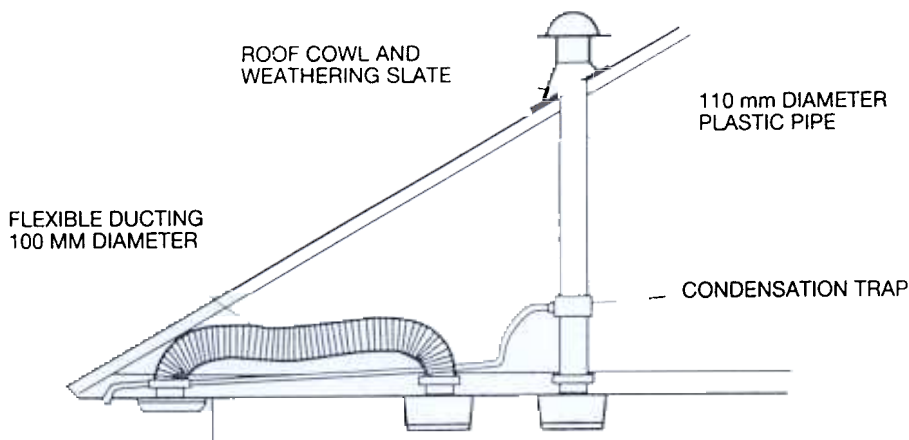

Fig. 12
7.8 Install ducting from the exhaust spigot either through the roof using a weathering slate and roof cowl, or under the eaves using an outlet grille (both available from Airflow), (see Fig. 12).
8.8 Install ducting in the roof void (see Section 7.8 and Fig. 12).